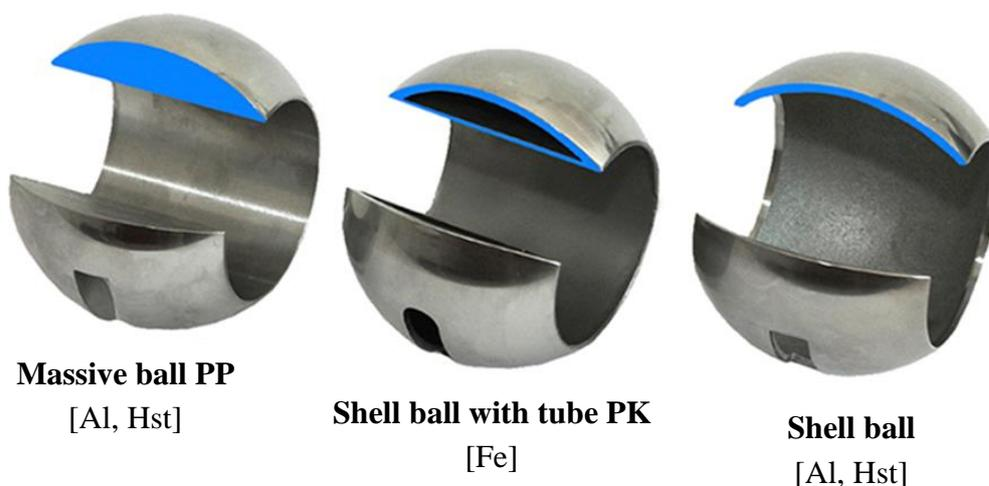

Figure 1. Different structures of Jouka balls. Possible materials are presented within square brackets.
There are three structurally different balls for Jouka-valves. Ball types and possible materials in them are presented in figure 1. Our experts will help you to choose the right ball type.
- for a ball: size of the ball ØD and type of the ball (figure 1)